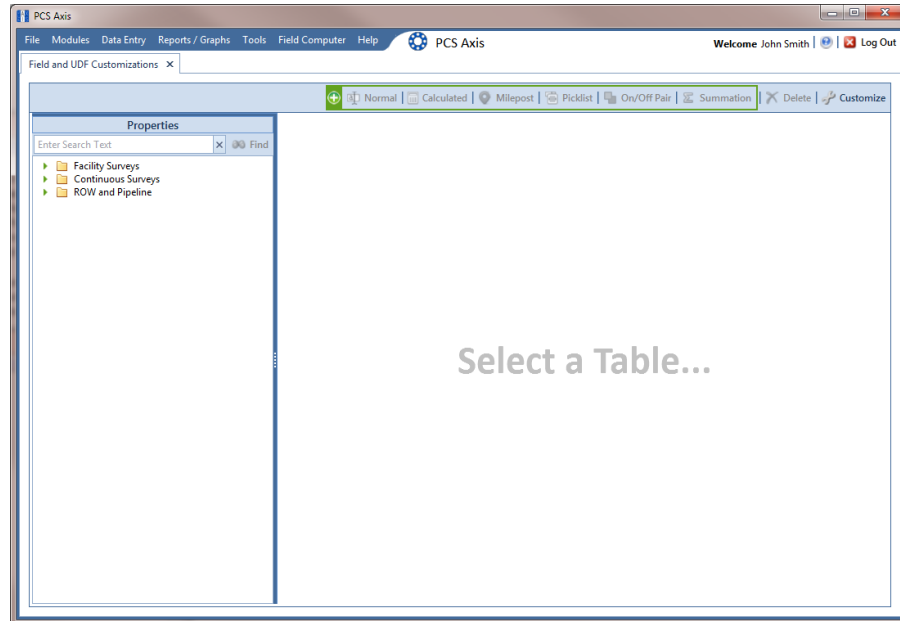

Figure 3-27. Field and UDF Customizations
- 1 Click **Tools** > **Field and UDF Customizations** to open the *Field and UDF Customizations* window (Figure 3-27).